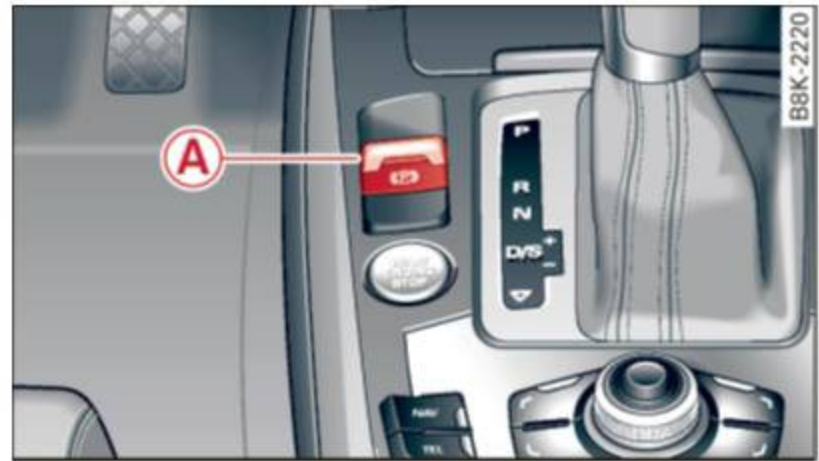

Fig. 98 Center console: Parking brake
- ▶ Pull on the switch (A) ⇒ *fig. 98* to apply the parking brake. The indicator light in the switch illuminates.
- ▶ Pull the switch  ⇒ *page 85, fig. 98* to set the parking brake.
- ▶ Pull the switch  ⇒ *page 85, fig. 98* to apply the parking brake. ▶
- ▶ Keep the switch  ⇒ *page 85, fig. 98* pulled and depress the accelerator. The parking brake stays applied and prevents the vehicle from rolling backward.
- ▶ In an emergency, pull the switch  ⇒ *page 85, fig. 98* and continue to pull it to slow your vehicle down with the parking brake.